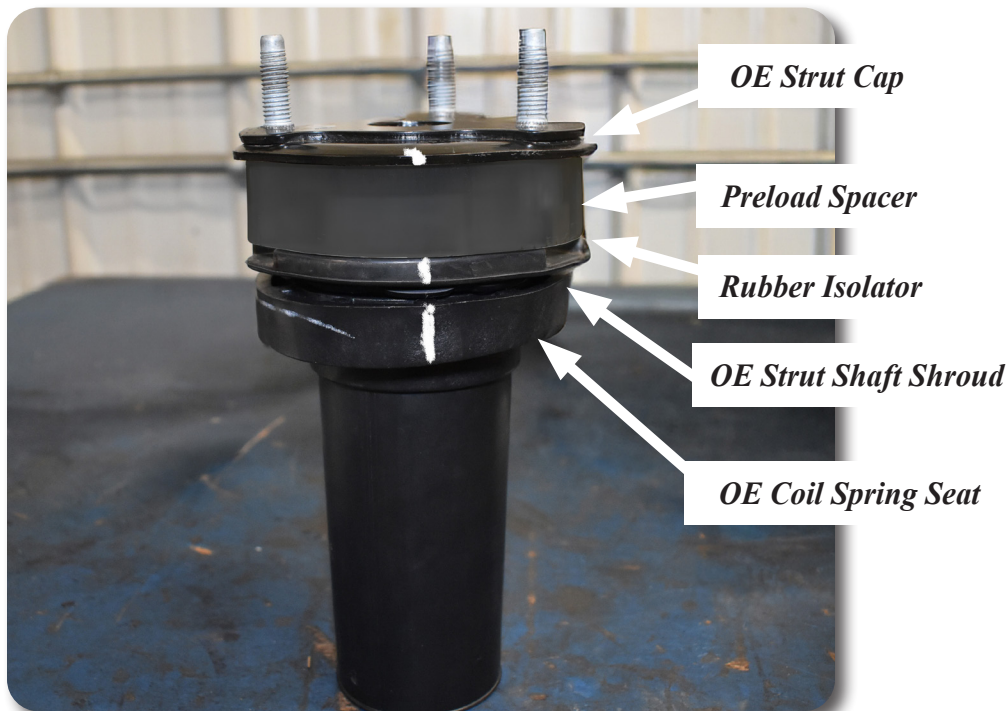

Figure 5
14. Place the rubber isolator, shock shroud, and spring seat onto the strut cap in the same order. (Figure 5).